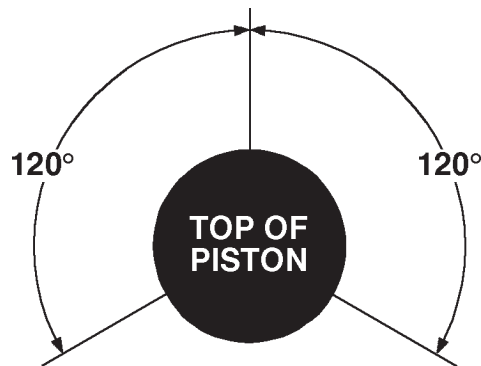

FIGURE 1. PISTON RING ORIENTATION
- XIV. Rotate the rings so that the gaps of the three rings are 120° apart. See Fig. 1. Lightly lubricate the inside of the cylinder. Rotate the crankshaft so that a piston is at the top of the stroke. Compress the rings with a ring compressor, and slide the cylinder over the piston. Repeat for the other piston.